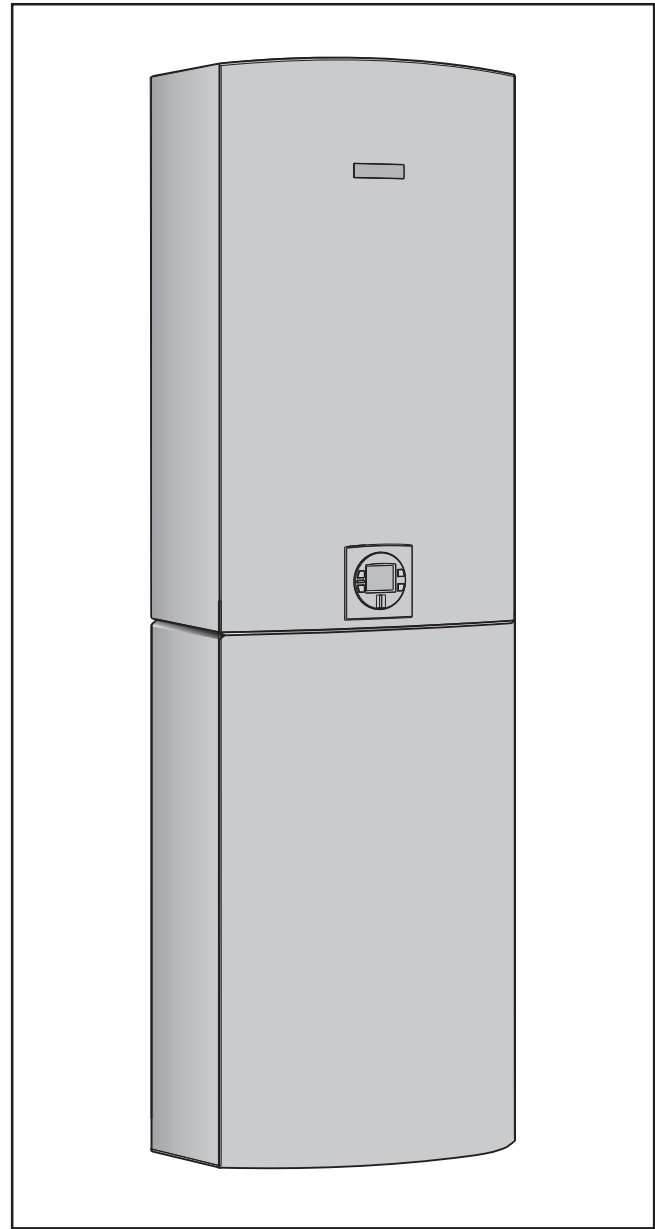

Fig. 9 Completed pipe cover installation
13. When fitting properly, tighten the attachment screws at the bottom of the water heater to hand tight. Then install and tighten screws for the front panel of the pipe cover. This installation is now complete (See Fig. 9).